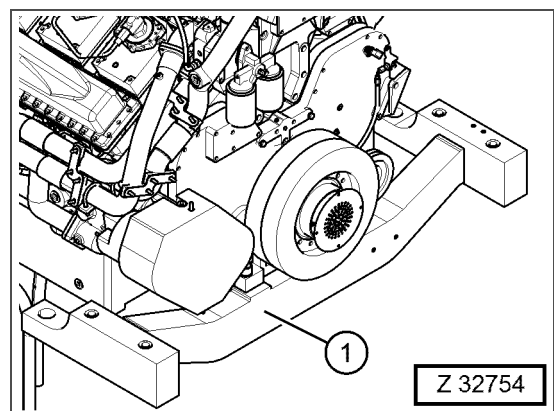

Fig. 3-57 Engine torque support
50. Disassemble the engine torque support (Fig. 3-57, Pos. 1) and all other attached components from the engine.